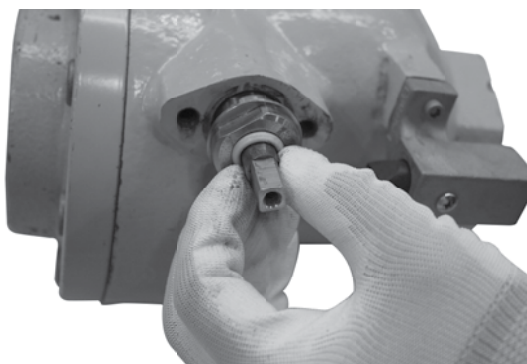
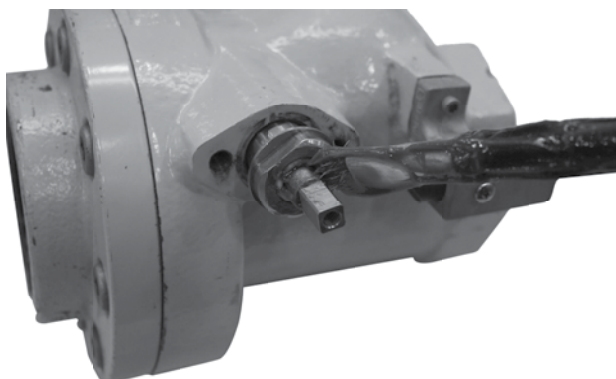

Figure 14. Install adaptor (step 5)
Figure 15. Lubricate (step 5)
5. Replace the male TFE packing adaptor with the flat side in, Figure 14, working it over the shaft and into the gland. Be careful not to damage this adaptor. Apply a liberal amount of Magnalube®-G grease on the face of this adaptor, Figure 15, that it will be trapped under the next ring.